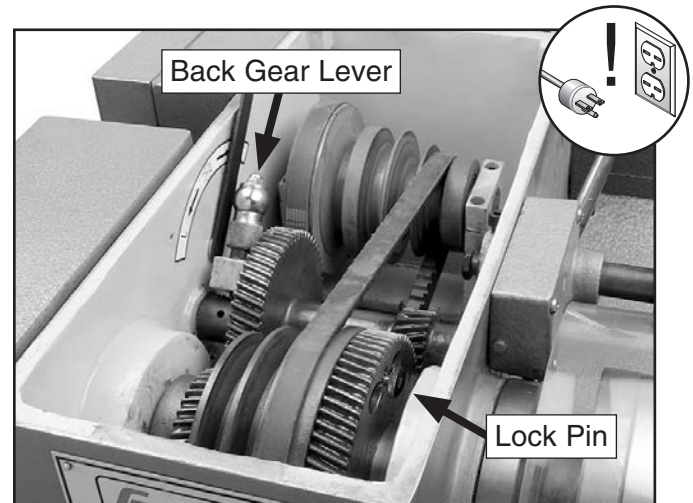

Figure 51. Back gear lever and lock pin.
2. Pull out the lock pin shown in **Figure 51**, and rotate it 90° so that it stays in the "out" position.